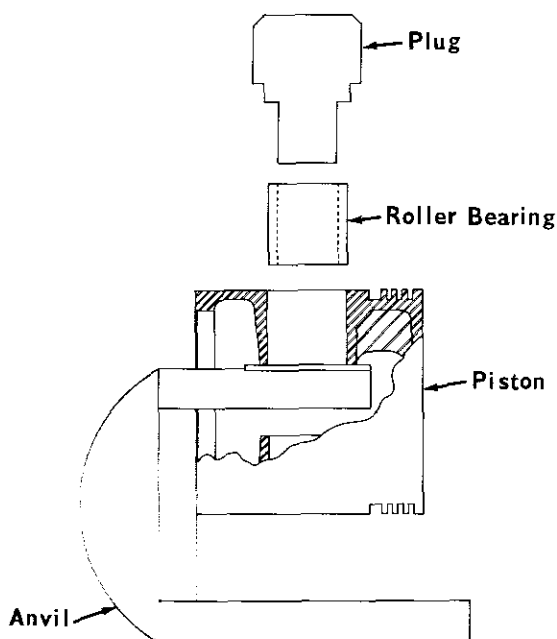

Fig. 15 — Roller Bearing Installation
6. Place piston over anvil, Fig. 15, locating piston pin boss approximately in the center of the three countersunk screws in the top of the anvil.